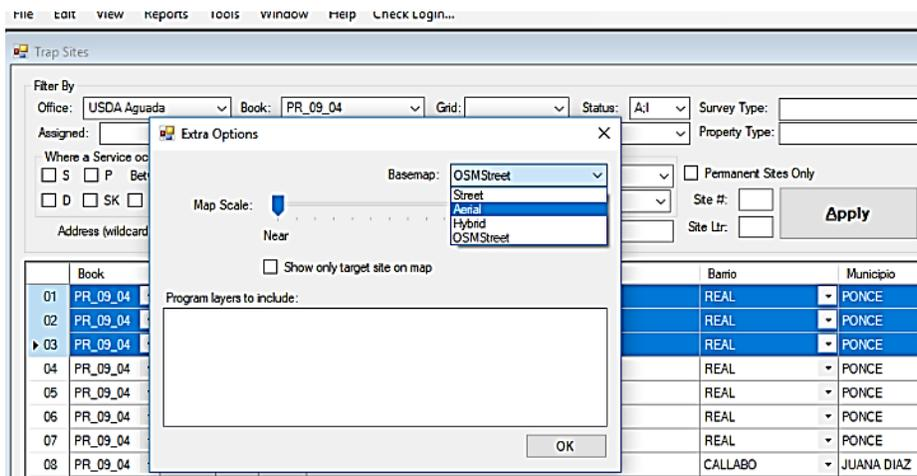

Figure 14. Set Map Scale and Basemap type
Step 6: Adjust the map scale and choose the basemap. Click OK. (Figure 14)